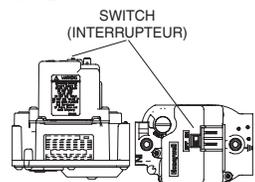

Figure 1
4. Move the gas control switch to the "OFF" position. Do not use force. (See Figure 1)
For 80+ Models: If the furnace is operated with inadequate combustion air supply, the flame roll-out control switch located above the burners may open, turning off the gas supply to the burners. The flame roll-out control is a manually resettable device (See Figure 1 and 4). **DO NOT** install a jumper wire across this switch to defeat its function. **DO NOT** reset the control without identifying and correcting the fault condition which caused the control to trip. If this switch must be replaced, use only the replacement part specified in the Replacement Parts List.